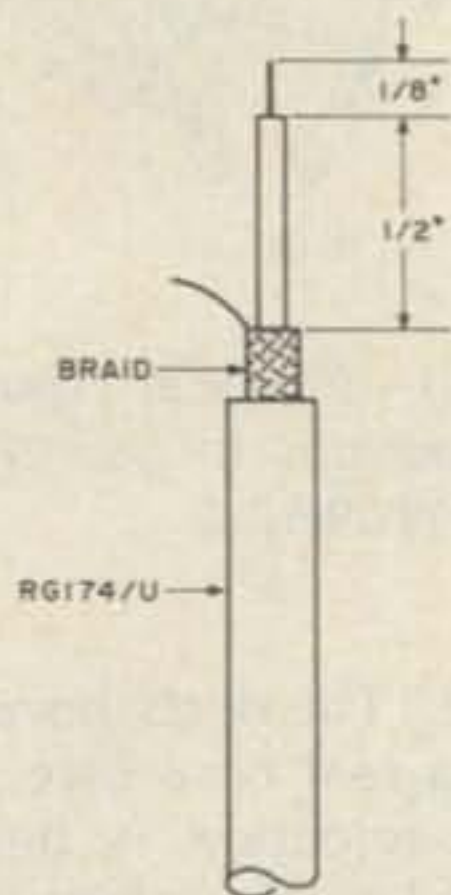
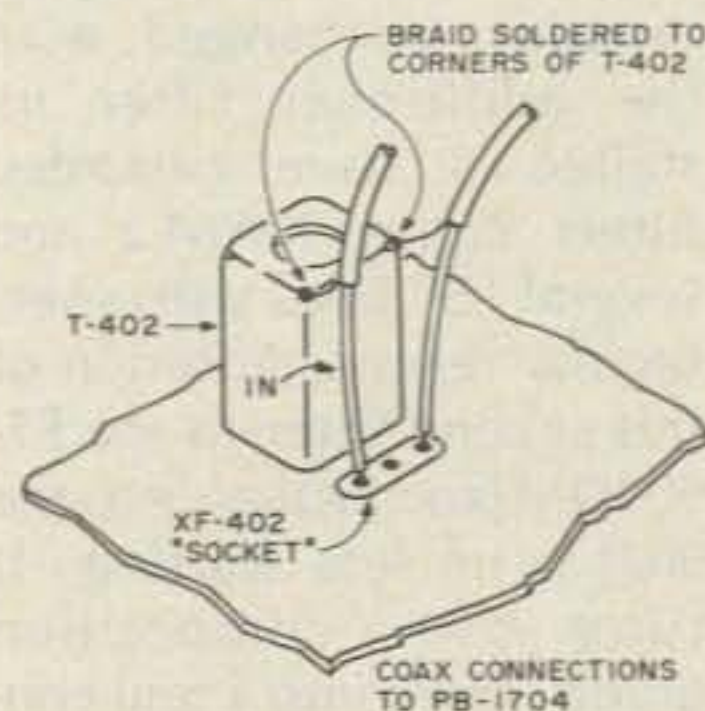

Fig. 6. Preparing the ends of RG-174/U coax for connection to PB-1704.
Fig. 7. Detail showing method of connecting coax to PB-1704.
3. Locate blank pin (S) of T402 and solder a short, thin, insulated jumper wire to it. Note that it connects to the IN connection of XF402, but do not solder it there until the coax is inserted. See Fig. 7.
4. Prepare both ends of the RG-174/U coax as shown in Fig. 6. Tin the exposed ends of the center conductor and insert them as shown in Fig. 7. Solder them to the foil side (as the filter was previously). Now connect the jumper wire from pin S. Next tin the upper corners of T402 and solder the braid tails to them for grounding and strain relief. Hold the braid tail with long-nose pliers to act as a heat sink to prevent melting the plastic insulation of the coax.